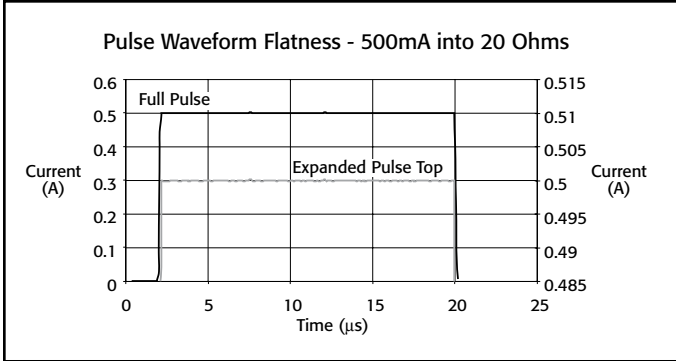
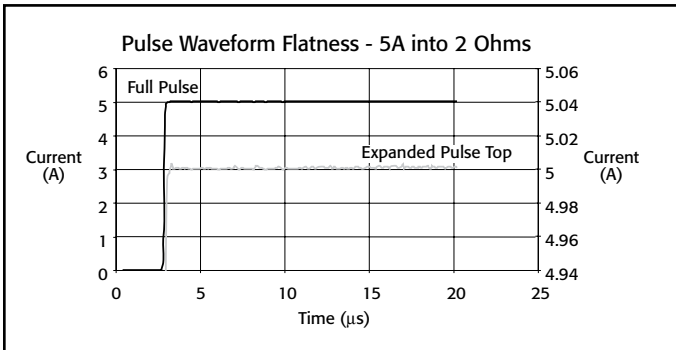

Figure 1
Figure 2
The mainframe and remote test head architecture of the Model 2520 is designed to enhance pulsed measurement accuracy, even at the sub-microsecond level. The remote test head ensures the measurement circuitry is located near the DUT, mounted on the fixture, minimizing cable effects. As the schematic in **Figure 1** shows, traditional semi-custom systems typically employed in the past require significant integration. The architecture of the Model 2520 (**Figure 2**) offers a far more compact and ready-to-use solution.
Figure 1. This schematic reflects the current testing practices of major laser diode manufacturers. Note that the use of discrete test components increases the integration and programming effort, while severely limiting the flexibility of the test system.
Figure 2. The Model 2520 integrates synchronization, source, and measure capabilities in a single half-rack instrument (with remote test head) to provide maximum flexibility and test throughput.
7. Figures 1 and 2 are typical pulse outputs into resistive loads.